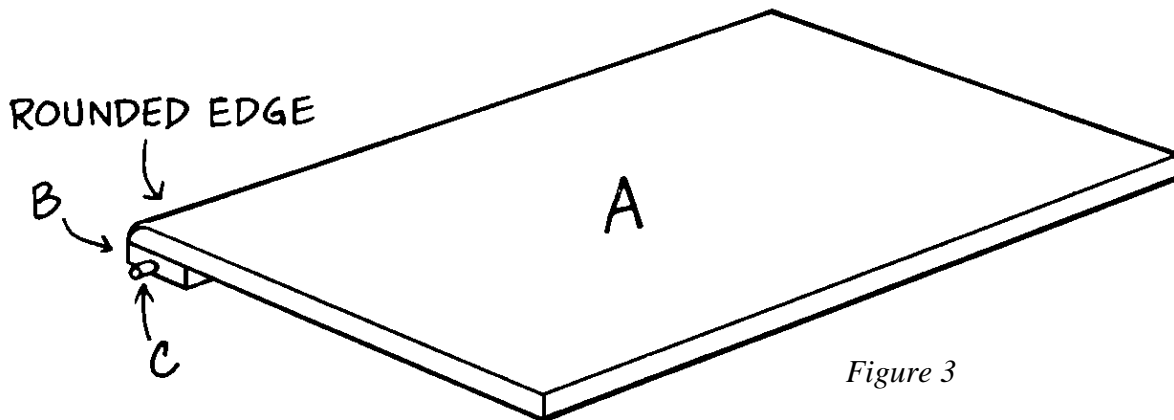

Figure 3
- Repeat Step 5 to drill a $\frac{3}{8}$ "-diameter hole, $\frac{1}{2}$ " deep, in the end of the other desktop brace (B). The second hole must be drilled as a mirror image of the first hole.
- Using a router and roundover bit, round the $35\text{-}\frac{3}{4}$ "-long edge of the desktop (A) to which the desktop braces (B) are attached, as shown in *Figure 3*.
- Cut two 1"-long of $\frac{3}{8}$ "-diameter dowel rod (C).
- Apply glue to one end of each dowel rod (C) and insert the rods into the holes drilled in the desktop brace (B). Each rod should protrude $\frac{1}{2}$ " from its hole
- Cut one $35\text{-}\frac{3}{4}$ "-long desktop front (D) from 1 x 4 pine.